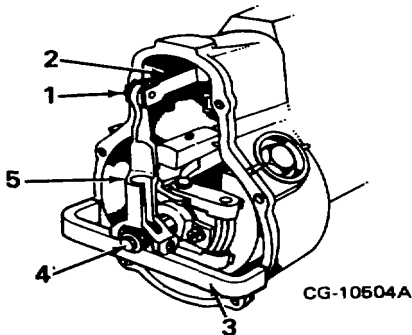

Figure 11. Slider-to-Housing Distance
7. Check "slider-to-housing" distance with guide bolt gauge 1 682 329 038 (Figure 11). Notch in gauge must fit in groove on guide bushing when gauge is placed against mating surface of housing (no gasket)